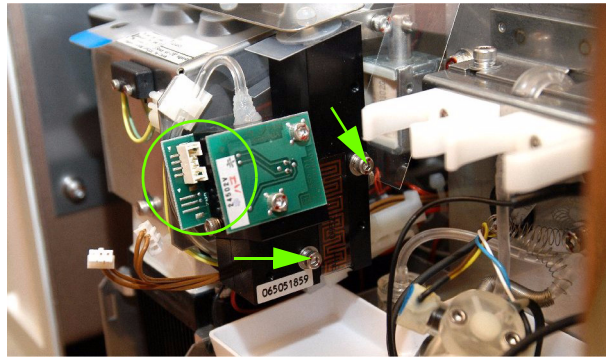

Fig.4: CRP board connectors
- ◆ Disconnect the connectors on the 2 boards of the CRP unit then unscrew the CHC screws (See “Fig.4: CRP board connectors, page 3”).